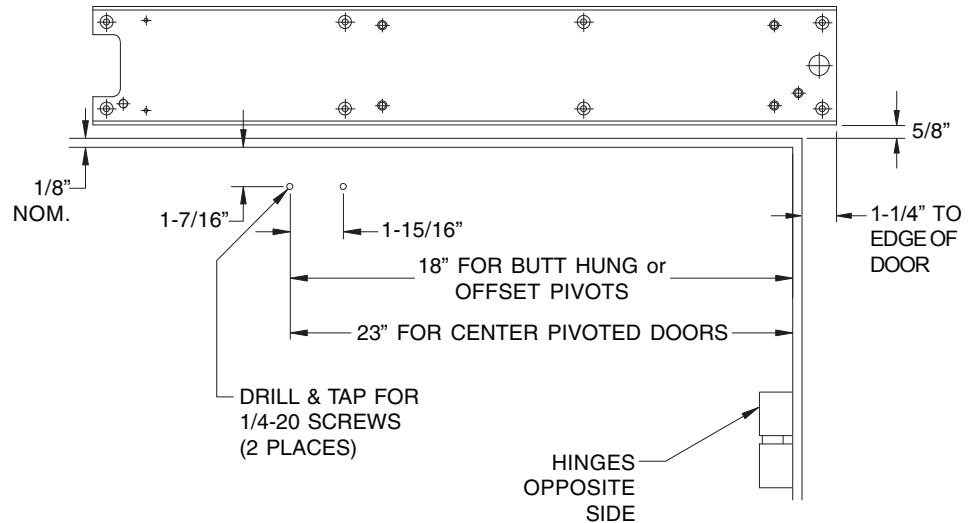

Figure 2
4. Attach the shoe of the push arm assembly to the door (Figure 2). Slide the push arm into arm linkage and fasten loosely with the socket head cap screw provided.